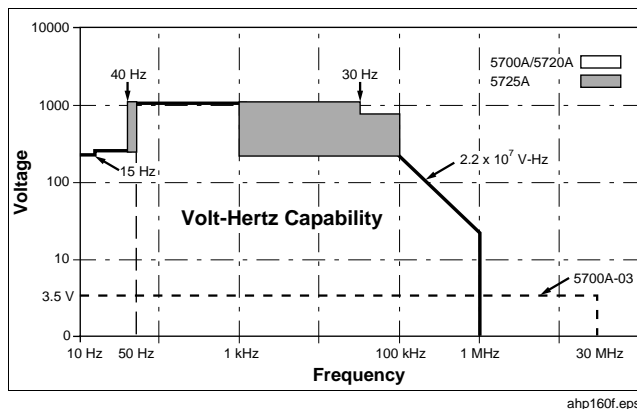

Figure 1-2. Volt-Hertz Capability
2. See Volt-Hertz capability in Figure 1-2.